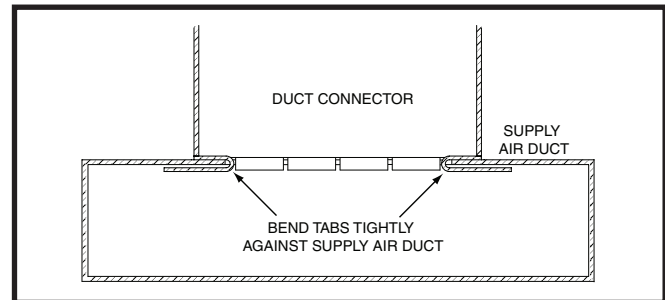

Figure 9. Duct Connector Tabs
7. Bend the connector tabs on the bottom of the duct connector upwards and as tight as possible against the supply air duct. See Figure 9 \(page 8\).